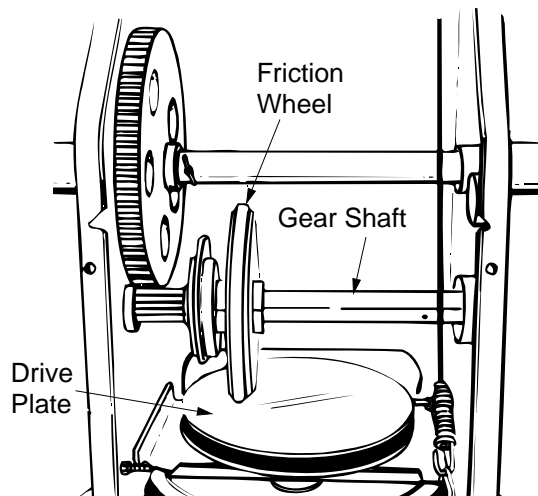

Figure 21
2. With the traction drive clutch released, there must be clearance between the friction wheel and the drive plate in all positions of the shift lever. With the traction drive clutched engaged, the friction wheel must contact the drive plate. See Figure 21.